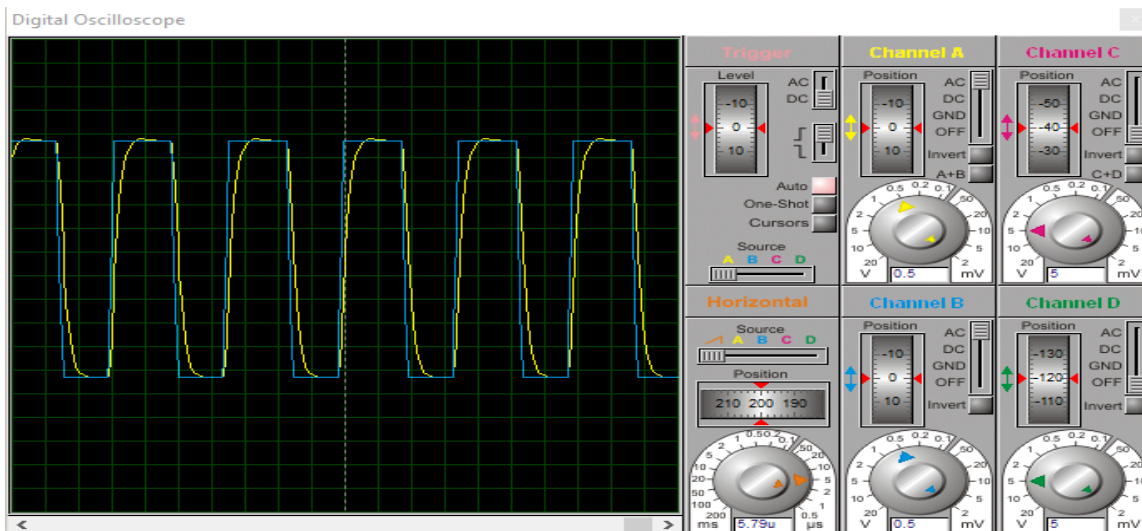

Figure 1.28: Simulation Result of RL circuit
1. First construct a circuit in Proteus given in figure 1.28. Then add all the necessary connections.